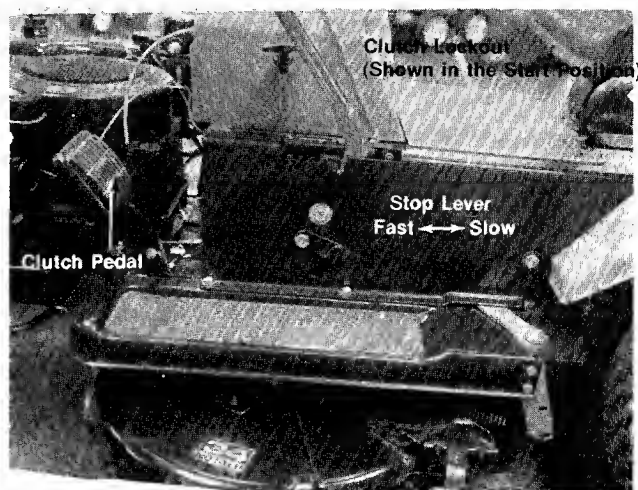

FIGURE 9. LEFT HAND CONTROLS
e. **Clutch Pedal.** The clutch pedal is used to disengage the drive mechanism. Depressing the clutch pedal at any time will reduce mower speed. If depressed all the way, it will stop the mower. See figure 9.
f. **Clutch Lockout.** When the clutch pedal is depressed all the way it can be locked by placing the clutch lockout in the START position as shown in figure 9. The clutch locknut must be in this position before the engine will start.
g. **Stop Lever.** The stop lever allows you to regulate the maximum ground speed of the riding mower by setting the stop lever in any one of the five settings. The farther forward the stop lever is set, the faster the ground speed. See figure 9.
- Step 2. Place the clutch lockout in the **START** position. See figure 9.